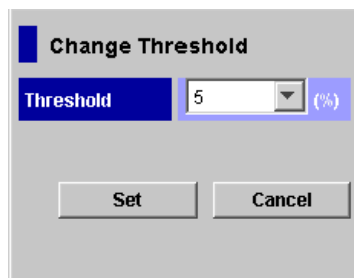

Figure 5-12 Changing the Threshold
4. Select the pool ID with which you want to associate the V-VOL group, then select **Next** to display the **Change Threshold** dialog box (see Figure 5-12).
3. On the right side of the window, right-click one or more DP-VOLs, and select **Change Threshold** to display the Change Threshold dialog box (see Figure 5-12). Be sure to select V-VOLs that are already associated with a pool.